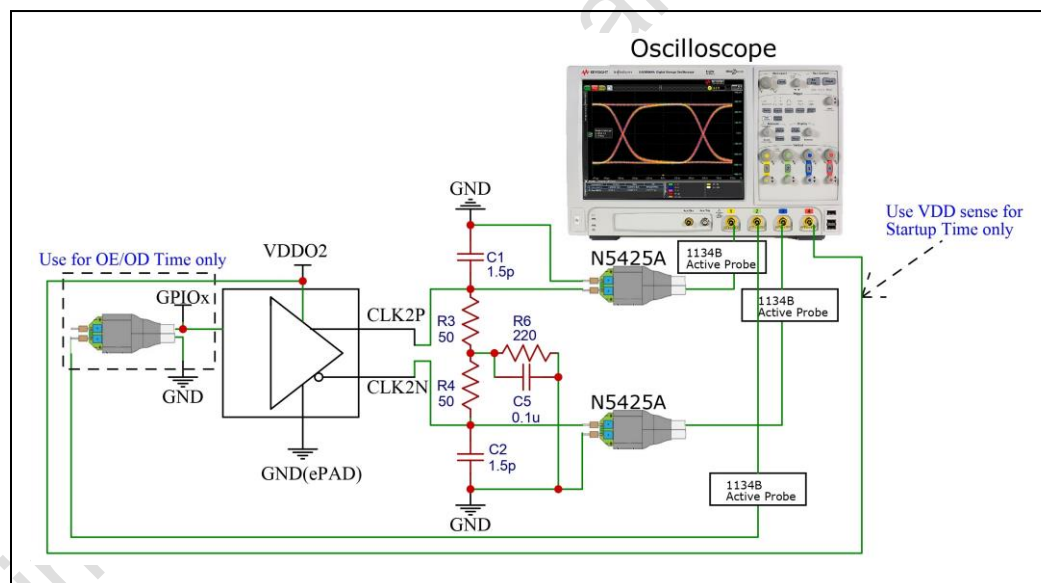

Figure 5. Test setup to measure FlexSwing Waveform Characteristics, Current Consumption^[12], Output Enable/Disable Time, and Startup Time
9. See Figure 5 for the test setup to measure LVPECL Current Consumption with Termination 1 or without Termination.